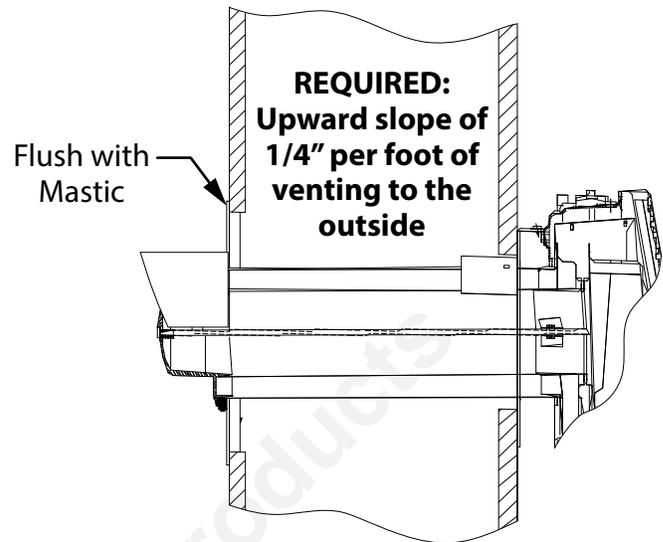

Figure 28
7. The outdoor mounting plate (F) and the silicon-rubber ring (G) should be installed between the vent cap (A) and the exterior wall. Note: For additional security the outdoor mounting plate (F) can be attached to the outside of the wall using the appropriate hardware for mounting to the surface of the building. The outdoor mounting plate (F) must be positioned flush to the wall and sealed with a non-hardening mastic (silicone caulk). Position the outdoor mounting plate (F) so that the vent-air intake pipe (C) has a slight upward slope of 1/4" per foot of venting to the outside.
8. Before attaching the vent cap (A) to the exterior wall, run a bead of non-hardening mastic (silicone caulk) around its outside edge, so as to make a seal between it and the outdoor mounting plate (F) (see figure 28).
9. Slide the vent cap (A) into position and secure into place using the provided nut (E). Tighten nut (E) down until the vent cap (A) leans against the outdoor mounting plate (F).